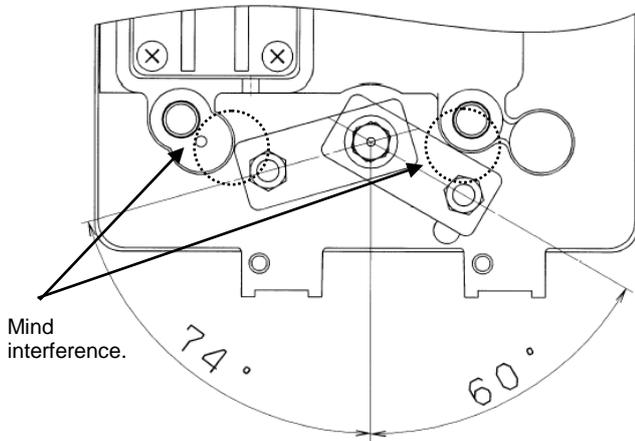

Fig.7
*2: Fig. 7 shows the details of how to adjust the fork lever angle. Adjust the fork lever angle to avoid interference with the positioner foot when the positioner fork pin unit rotates along with the actuator. Also, the effective angle of the positioner angle sensor is $\pm 60^\circ$, and the fork lever-type fitting has to be fixed to remain within that range. The angle can be checked by following the instructions in “2. Adjustment of fork lever-type fitting angle” of “■ Initial Adjustment”.